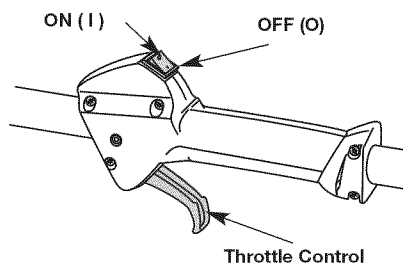

Fig. 9
NOTE: There is no need to turn the unit on. The On/Off Control is in the ON (I) position at all times (Fig. 9).
2. Press and hold the On/Off Control in the OFF (O) position until the unit comes to a complete stop. (Fig. 9)